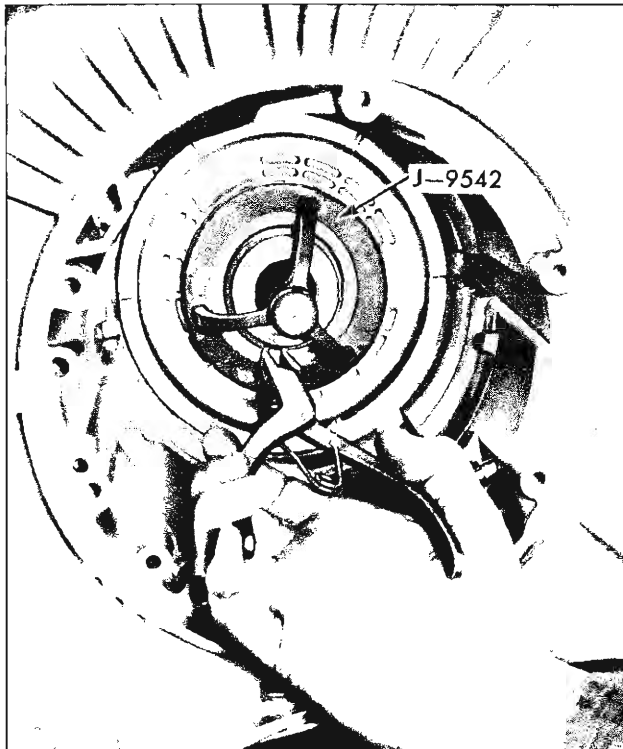

Fig. 13PG—Removing Rear Piston Spring Retainer Snap Ring
18. Install Tool J-9542 through the rear bore of the case with the flat plate on the rear face of the case and turn down the wing nut to compress the rear piston spring retainer and springs, then remove the snap ring (fig. 13PG). Tool J-8039 may be used to remove the snap ring if desired.